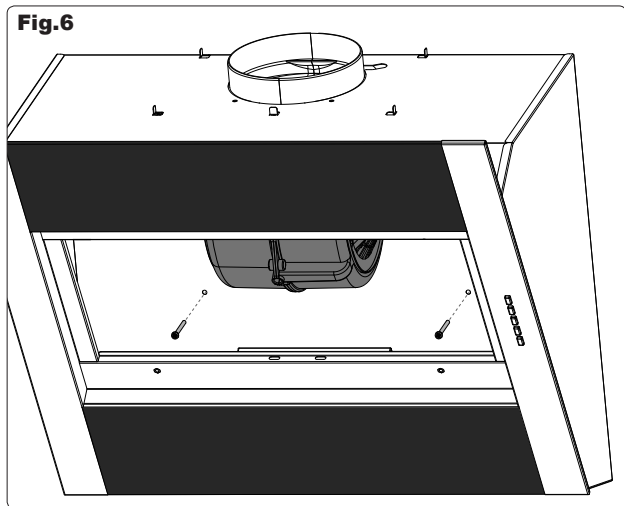

Fig.7
- Thread the upper chimney **E** to the inside of the lower chimney **F**; Insert them vertically on of the cooker hood body (fig.7).